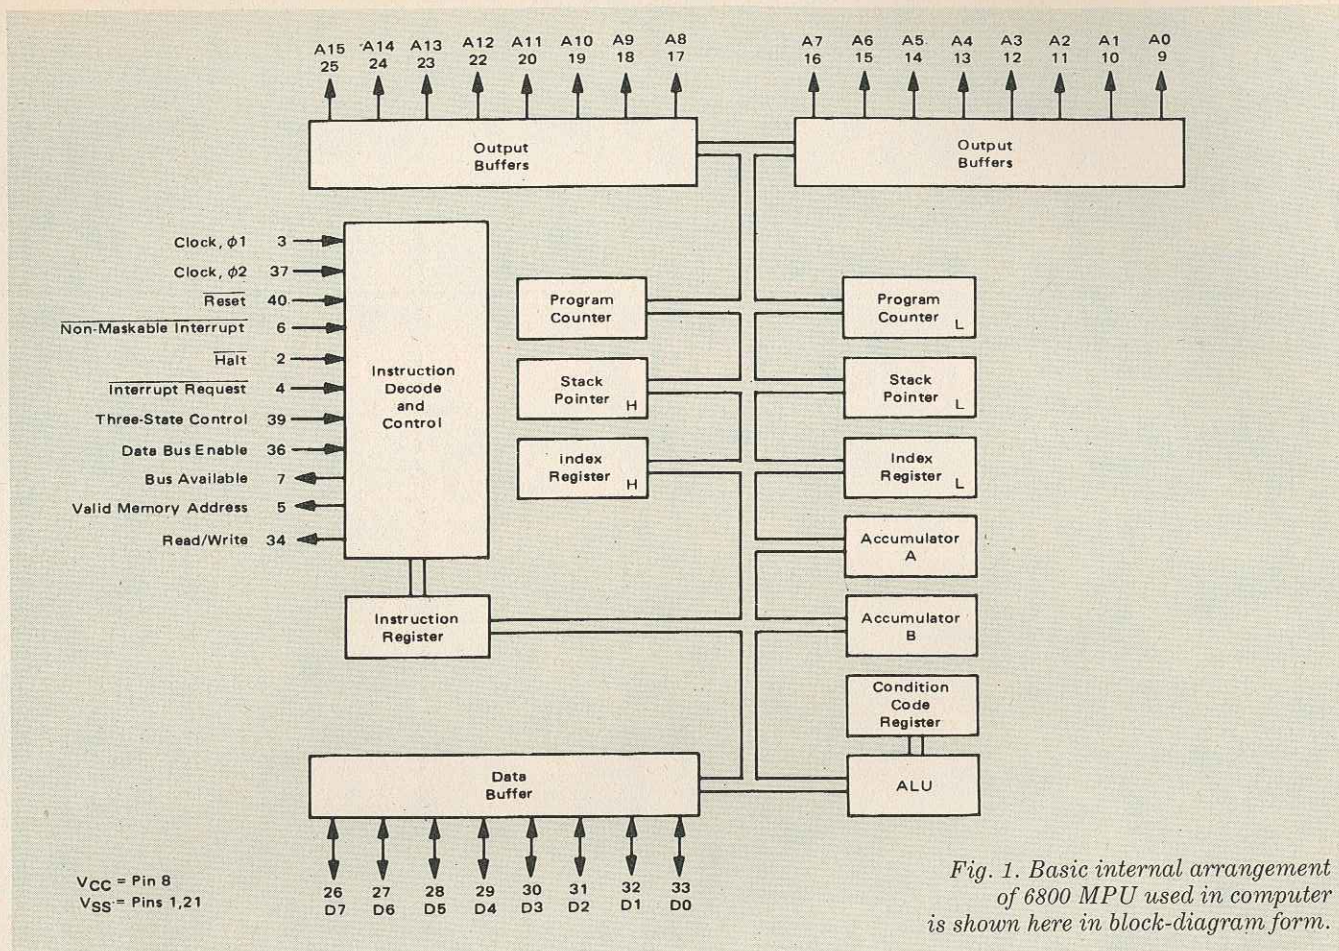

Fig. 1. Basic internal arrangement of 6800 MPU used in computer is shown here in block-diagram form.
**MPU and Clock.** As mentioned earlier, the MPU and clock are the new 6800 LSI chip. Its basic internal arrangement is shown in Fig. 1. The main elements are instruction decode and control, instruction register, data and address registers and buffers, 16-bit index register, 16-bit program counter, 16-bit stack pointer, two 8-bit accumulators, condition code register, and ALU (arithmetic logic unit).